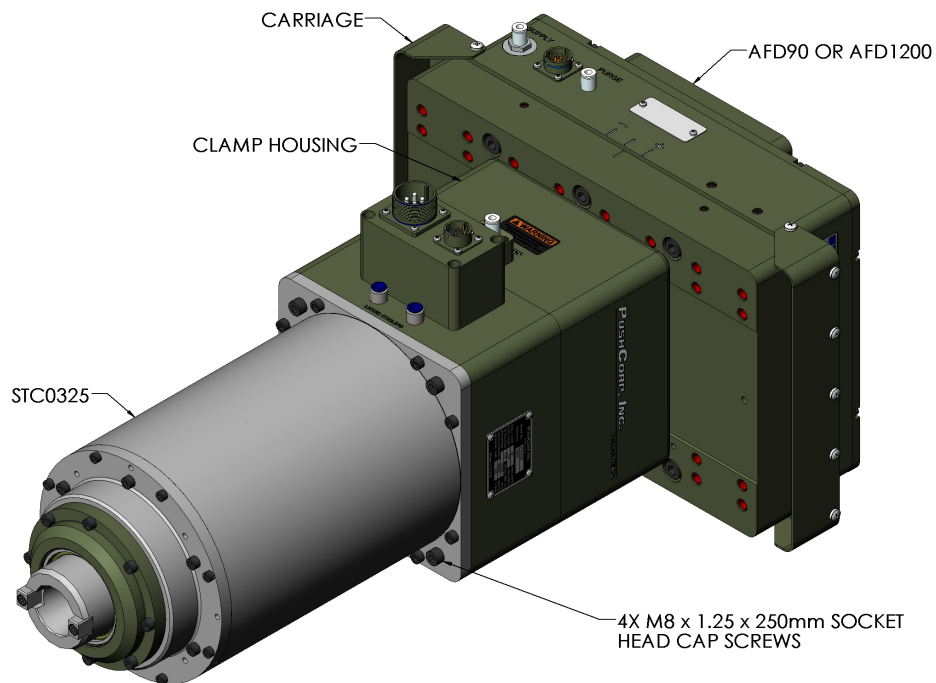

Figure 1. STC0325 Perpendicular-Axis Configuration
To attach the STC0325 to an AFD in a Perpendicular-Axis configuration, position the Clamping Housing over the Carriage as shown in Figure 1. Then secure the unit using four (4), M8x1.25x250mm, Socket Head Cap Screws. Tighten the fasteners to the torque specified in Section 4.0.